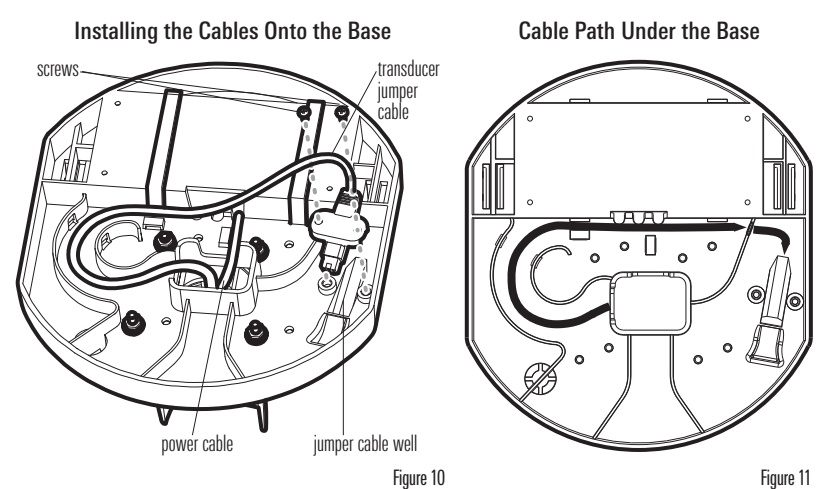

Figure 10
4. Pull the power cable through the opening in the long side of the cable well and insert it into the battery well (see Figure 10).
5. Route the transducer jumper cable (see Figure 10) out the short side of the cable well and follow the arrows on the base (see Figure 11).